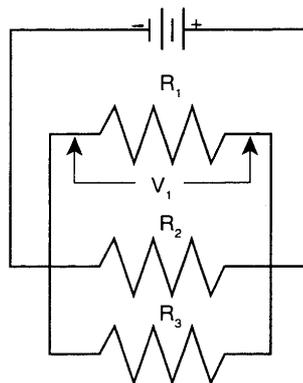

Figure 14.15: Voltage Measurements in Parallel Circuit
3. Now connect the parallel circuit (Figure 14.15), using three resistors. Measure the voltage across each of the resistors and the combination, taking care with the polarity as before. Fill in Table 14.6.